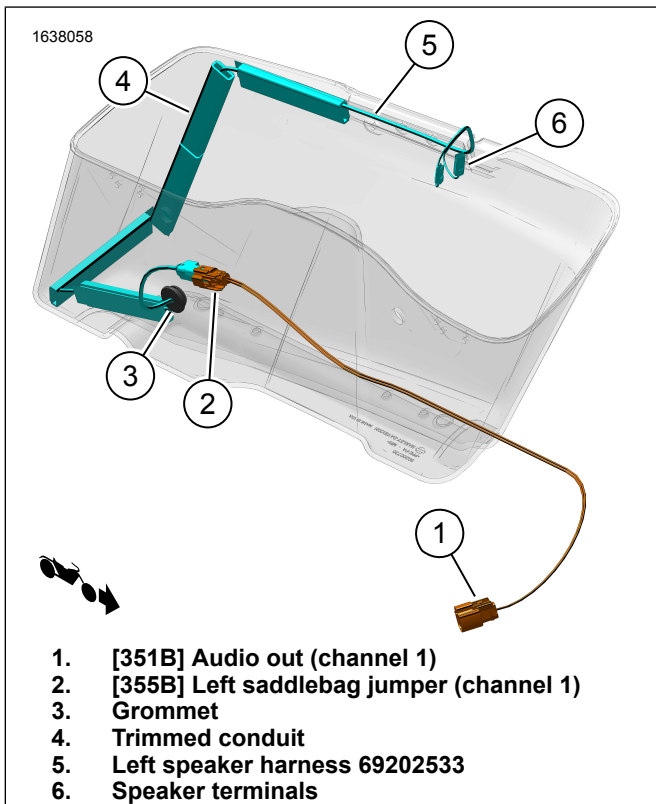
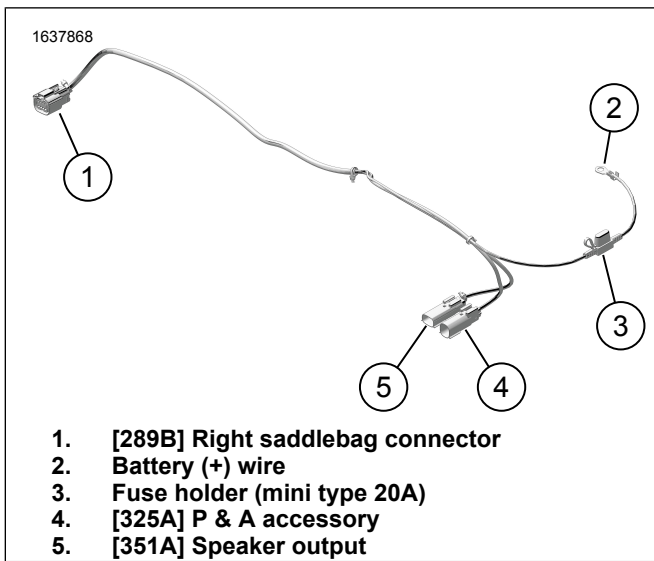
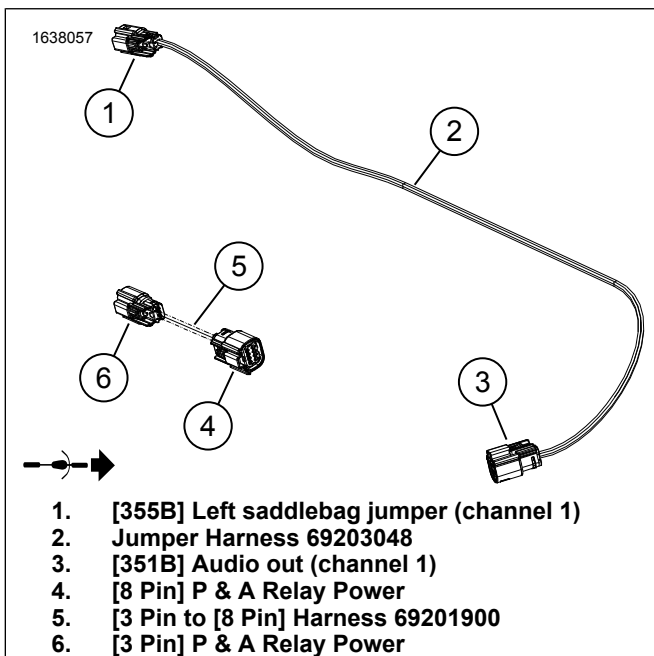

Figure 4. Left Saddlebag Harness Routings
Figure 15. External Harness 69202870
Figure 16. Jumper Harnesses
12. Figure 4 Install left speaker harness.
- b. Figure 4 Route wire harness (5) as shown.
1. Figure 15 Connect battery (+) wire (2) to battery (+) terminal. See service manual.
- a. Figure 15 Route [325A] (4) to left side of vehicle frame.
- b. Figure 16 Connect [3-Pin] (6) of jumper harness (5) to [325A] (4) of external harness 69202870. Figure 15
- c. Figure 16 Connect [8-Pin] (4) of jumper harness (5) to vehicle P & A connector [4]. Located under left side cover area.
- a. Route [325A] (4) along right side of vehicle frame.
- b. Figure 15 Connect [325A] to P & A connector [325B]. Located under right side cover area.
4. Figure 15 Route branch [289B] (1) of external harness along frame and fender strut support. Using cable straps, loosely install harness to anchor points. Do not tighten cable straps.
8. Figure 16 Route and install jumper harness 69203048 (2).
- a. Figure 16 Connect [355B] (1) of jumper harness (2) to left saddlebag speaker harness (5). Figure 4
- c. Figure 16 Route [351B] (3) on jumper harness 69203048 (2) toward [351A] (5) on external harness 69202870. Figure 15
10. Figure 1 Install 20 amp fuse (18) into external harness fuse holder (3). Figure 15
- a. Connect [360LA] to Left (L).
- b. Connect [360RA] to Right (R).
4. Figure 15 Connect to [351A] (5).